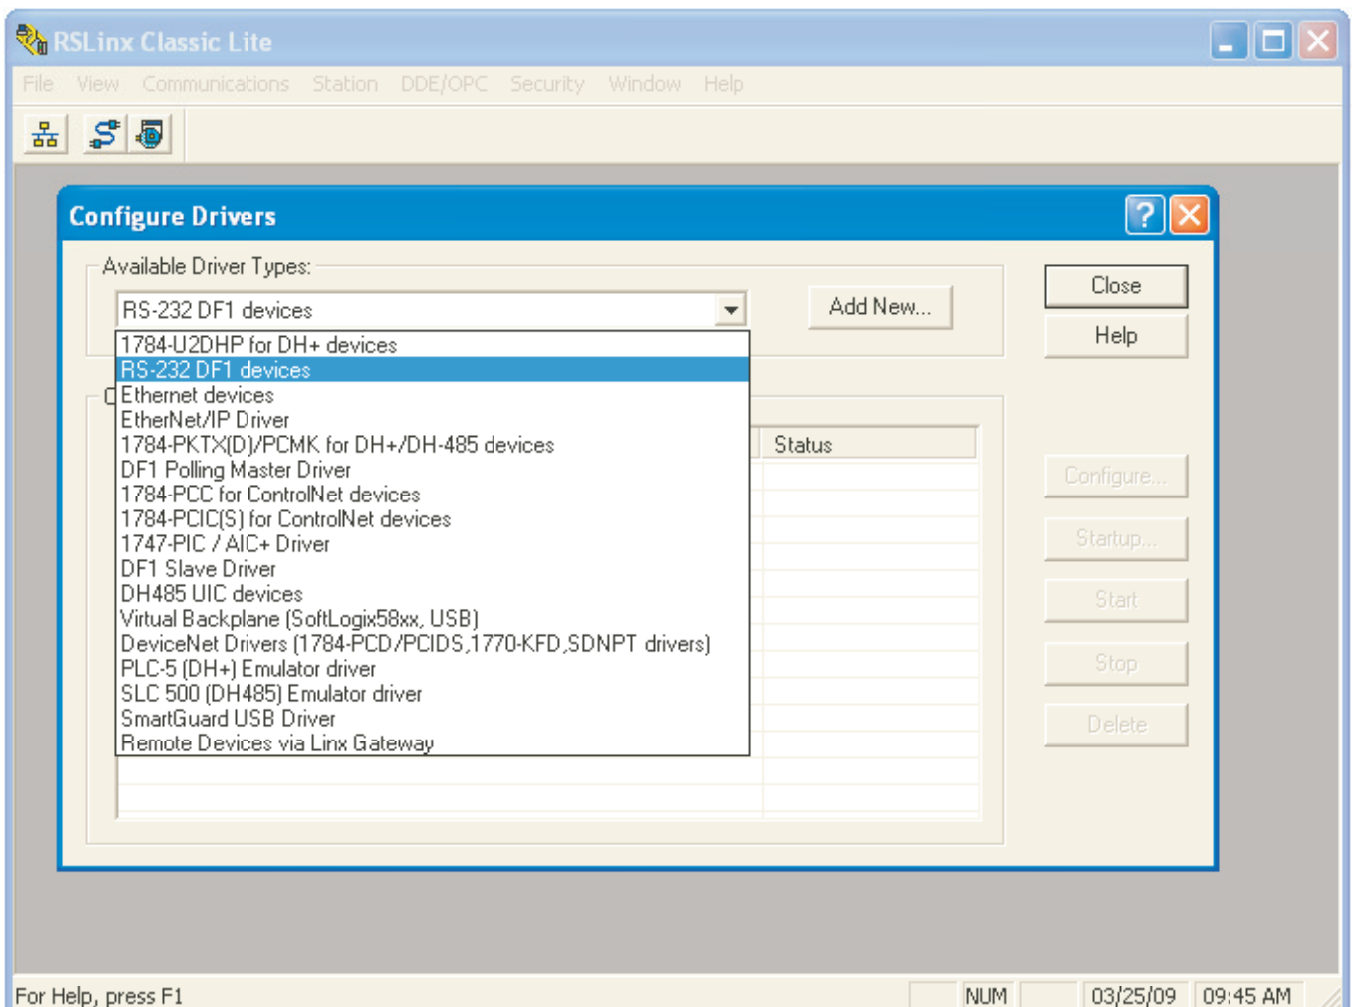

Figure 10-3: Configure Drivers
6. Click on 'Communications' and select 'Configure Drivers'. When the 'Configure Drivers' window opens, select 'RS232 DF1 devices' in the 'Available Drive Types' pull down menu (Figure 10-3).